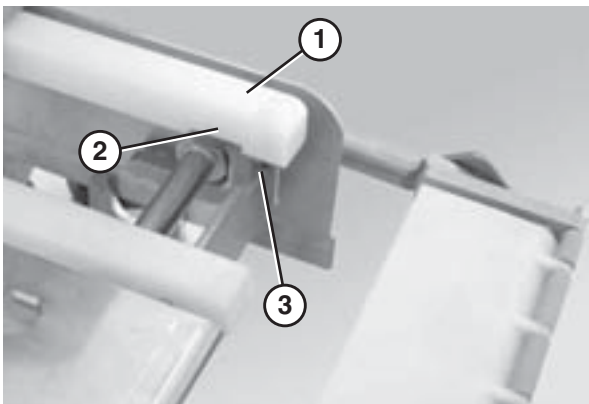

Figure 22
1. Position the wear strips (Figure 22, item 1) on the frame.
2. Make sure the slots in the wear strips (Figure 22, item 2) line up properly with the frame slots (Figure 22, item 3).